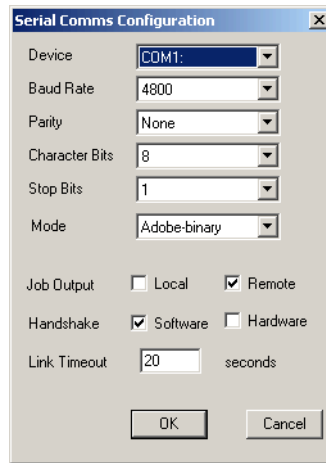

Figure 8.10 Serial Comms Configuration dialog box
3. Click the **Configure** button. The Serial Comms Configuration dialog box appears, as shown in Figure 8.10. Make the settings you wish, and click **OK**.